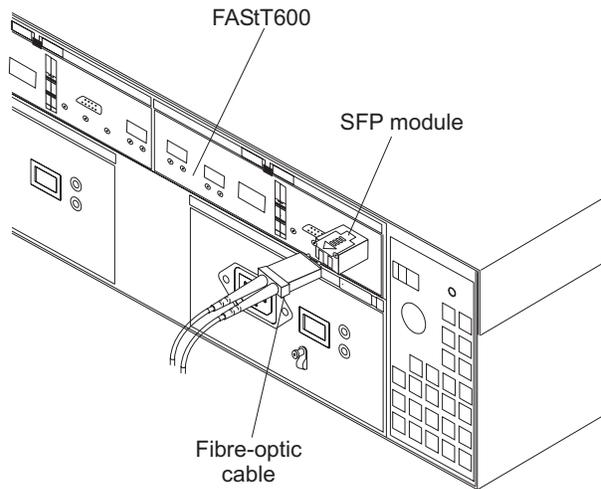

Figure 32. Connecting cables to the installed SFP
2. Connect the fiber-optic cable to the installed SFP, as shown in Figure 32.